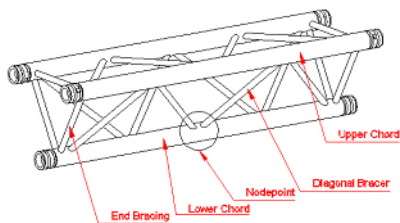

Figure 14 Node points
7. Always suspend or support the truss at the node points of the lower chords or near the end braces of each truss (see figures 14 and 15 below)